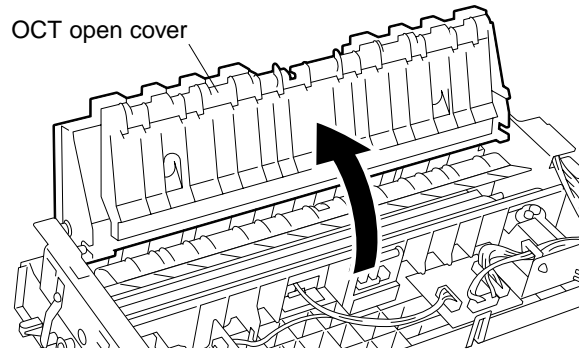

Fig. 6-8
(See Fig. 6-8 and 6-9)
3. Remove OCT paper guide assembly. (See Fig. 6-8 and 6-9)
2. Open OCT open cover. (See Fig. 6-8)
- Remove OCT paper guide assembly. (See Fig. 6-8 and 6-9)